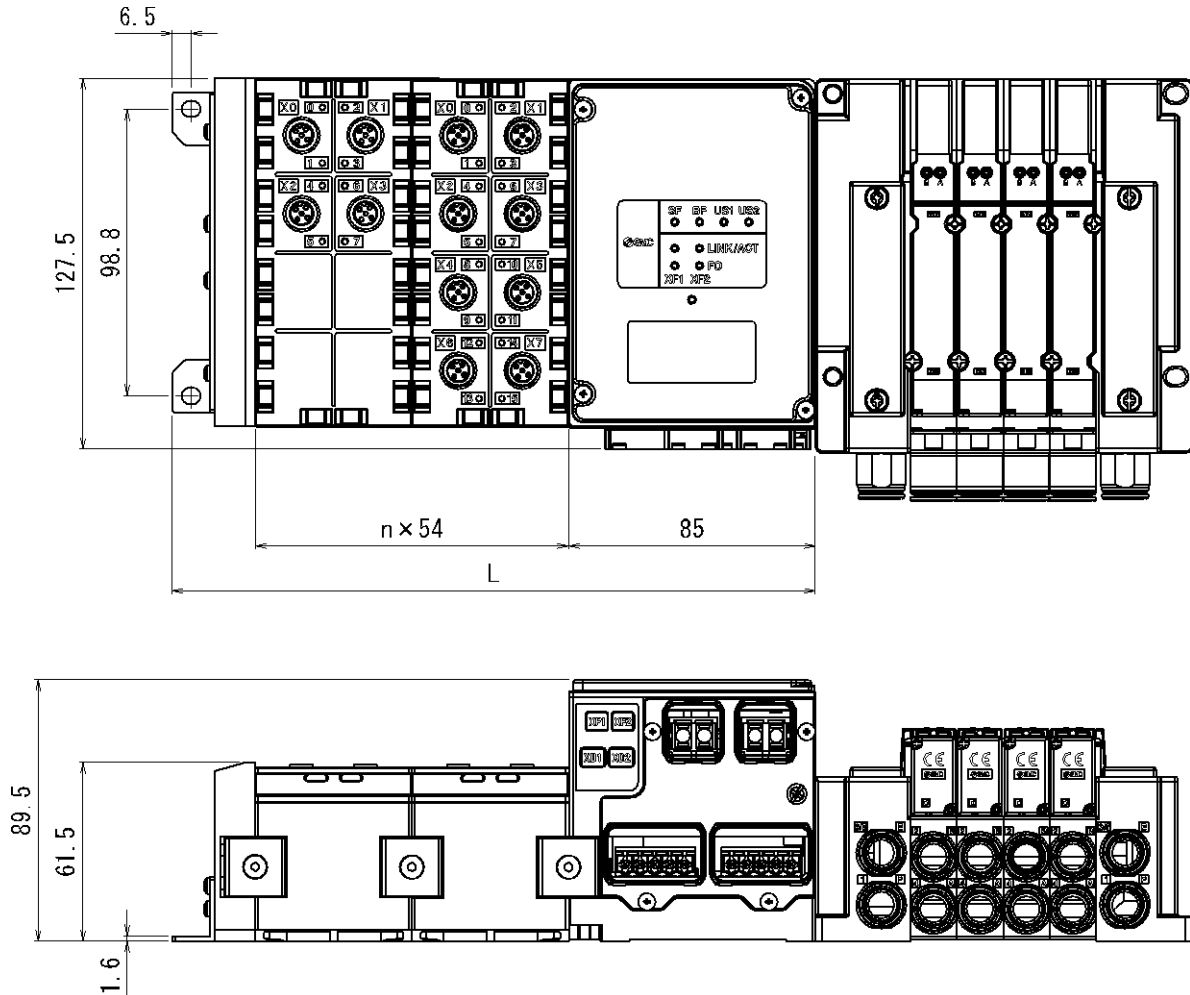

Fig. 11-1 Dimensions of the Modules manifold
- Fig. 11-1 shows when the EX245-EA2-1 is used.